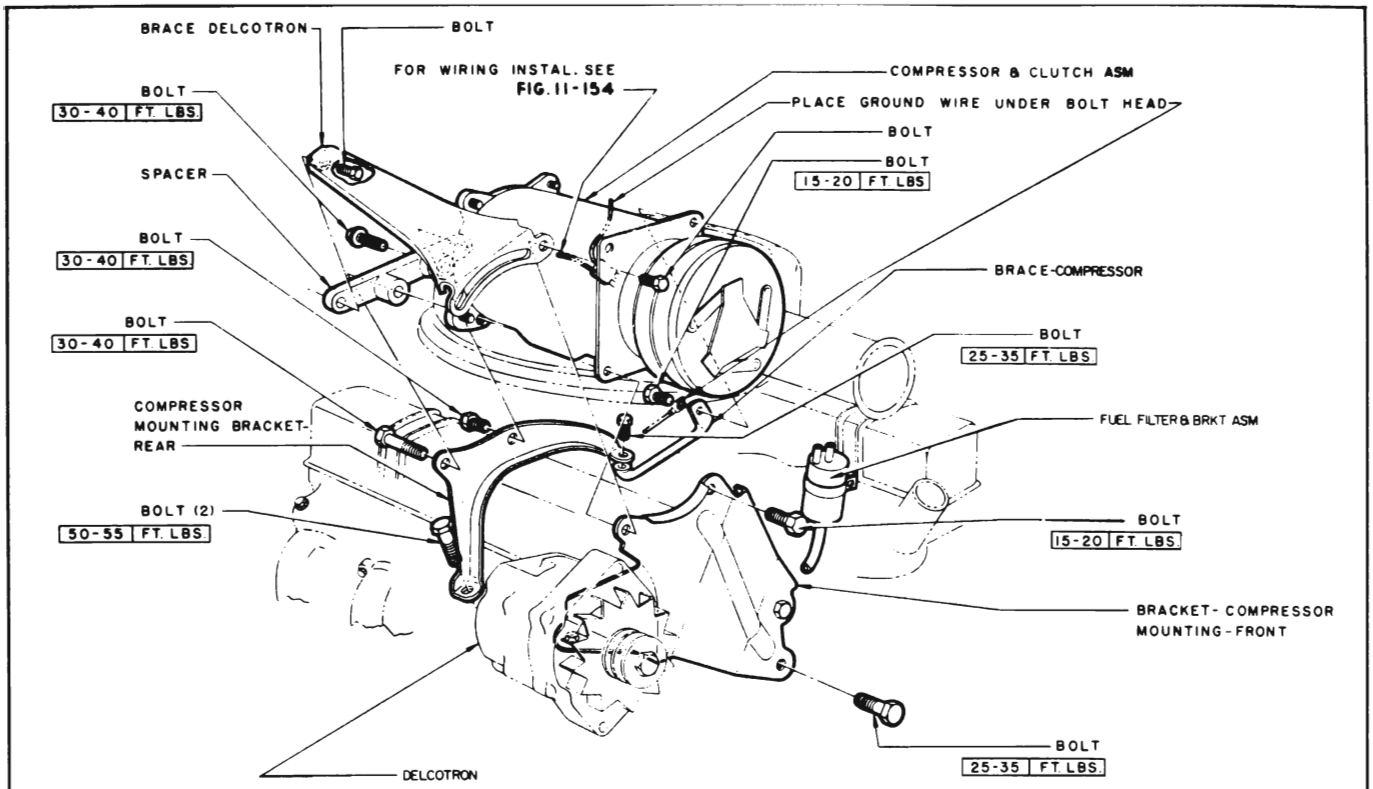

Figure 11-90—Compressor Installation—4400, 4600 and 4800 Series
4. Disconnect clutch coil wire connector, then loosen the belts and remove compressor from its mounting on engine. See Figures 11-90 and 11-91.